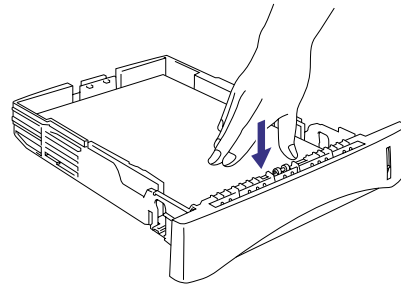

Fig. 2-4
- (3) Load paper into the paper cassette. Check that paper is flat placed. (Fig. 2-4) Paper should be loaded below the maximum paper mark.
- (4) Re-install the paper cassette into the printer.